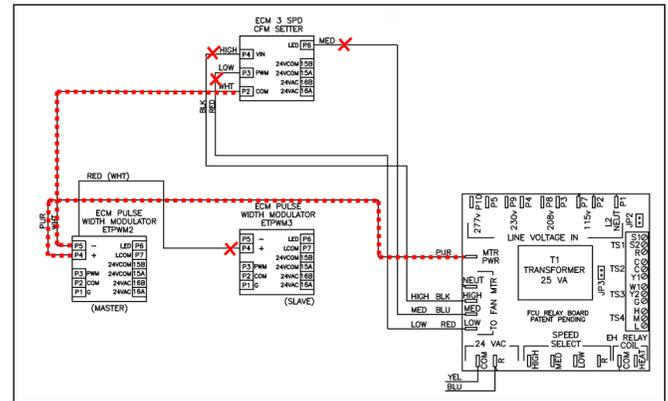

Figure 10 – Remove 2-10VDC motor control signal
REMOVE FAN CONTROL WIRES AND ETPWM2/ETPWM3 BOARDS FROM EACH OTHER (See Figure 10)
- Lift wire between the back of ETPWM2 board and P4 of ETPWM3 (RED/WHT in Figure 10, but color may vary depending on unit).